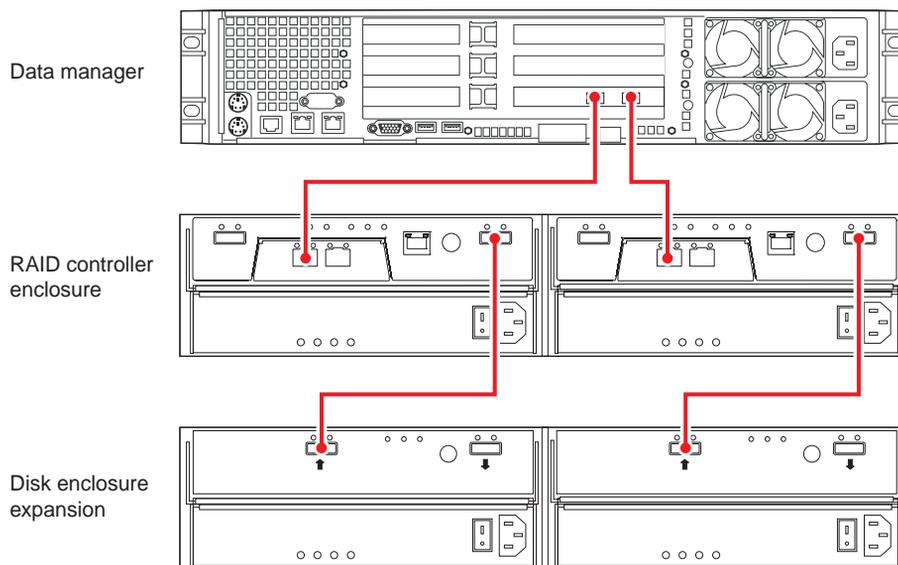

Figure 1-16 Data Manager, Dual-Controller RAID Enclosure and One Disk Expansion Unit
Use the following steps and Figure 1-16 to cable a data manager to a dual-controller RAID enclosure with one disk expansion enclosure.
1. Connect the Data Manager's Fibre Channel PCI card port A to the left-side RAID controller's host 1 port in the controller enclosure, see Figure 1-16.